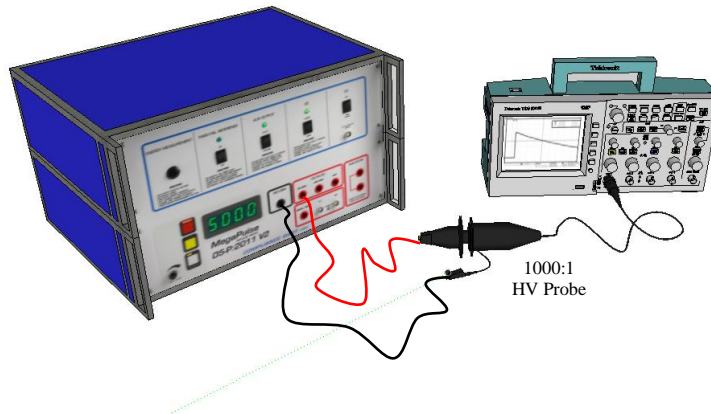

Figure 4. Checkout Pulse Setup
10. Connect the ends of the test leads to the measuring instrument. See Figure 4 as an example.